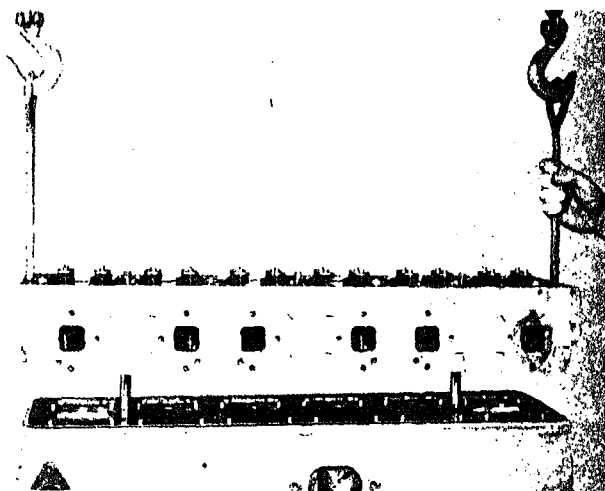

Fig. 14-1-37. Installing cylinder head
Install one stud (threaded at one end) into each end of cylinder block (or closer together, if desired) (1, Fig. 14-1-37).
**Attach** Lifting Fixture to cylinder head and lift over cylinder block with suitable hoist; carefully lower head onto cylinder block, using the two studs as guides, Fig. 14-1-37.